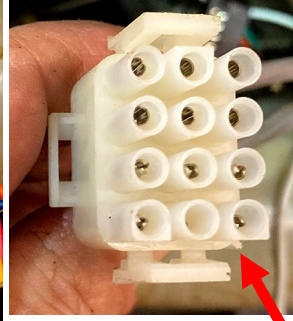

Figure 75
- 75. Reattach the gray 12-pin harness to the bottom plug on the rear of the component box. Pin 1 (denoted by the tab) is in the lower right corner (see Figure 75).